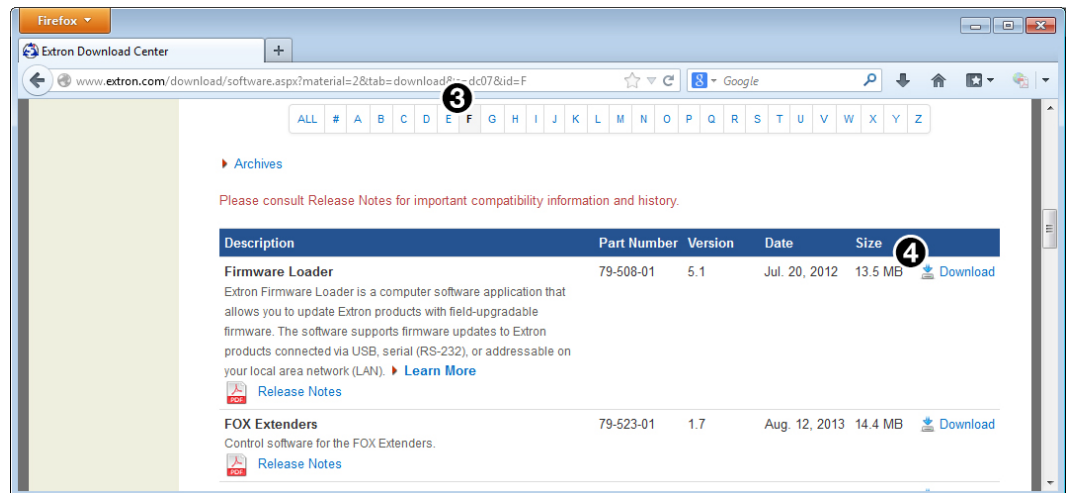

Figure 30. Firmware Loader on the Extron Website
3. Click the **F** link and navigate to Firmware Loader (see figure 30, ③).
4. Click the **Download** link on the right that corresponds with the program (see figure 30, ④).